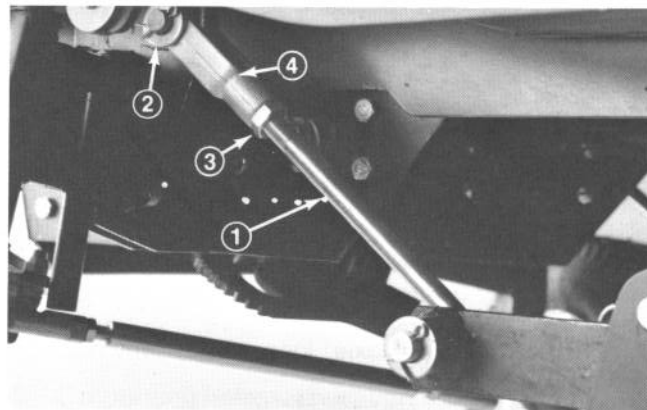

Figure 32
- D. Block up deck, remove cotter pin and washer from one of the front link yokes (Fig. 32).